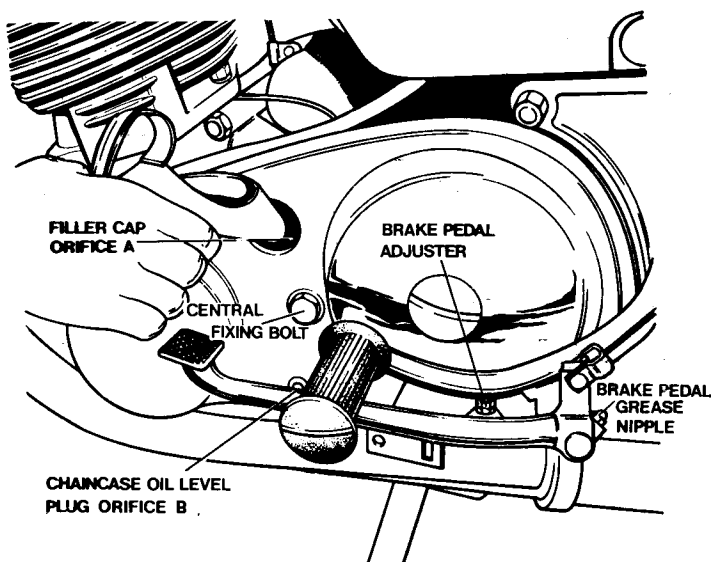

Fig. K8 Primary chaincase plugs
An oil level plug is fitted in the primary chaincase outer cover. (See *Fig. K8*). To check level, remove plug (see *Fig. K8*, item B) whereupon oil should seep gently out if correct. If topping up is necessary, remove the filler cap (see *Fig. K8*, item C) and replenish with correct grade of oil until the oil begins to seep from the level plug orifice. Replace the filler cap and the level plug.
Remove the footrest and place a metal tray under the chaincase. Unscrew the central fixing bolt (see *Fig. K8*) and break the joint to allow the oil to drain into the tray. Wash out the case with clean kerosene (paraffin). Refit the outer case and remove the filler cap, and level plug (B). Pour fresh oil into the filler cap orifice (C) until it begins to run from the level plug hole. Allow the surplus to drain off and refit the level plug and filter cap. Refit the footrest.